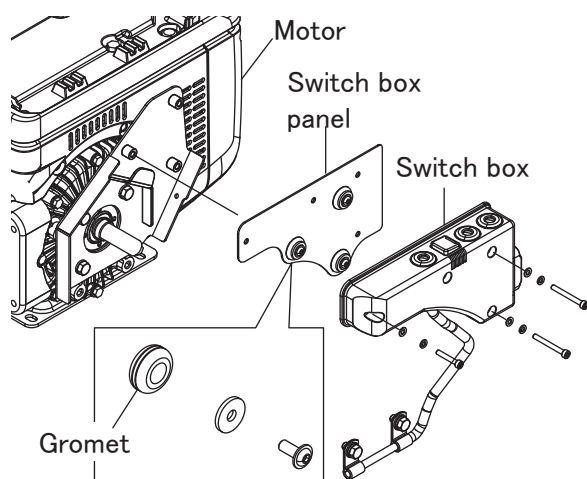

Fig.12
- c. Remove the switch box, then replace the grommet installed to switch box panel to new one (Fig.12).